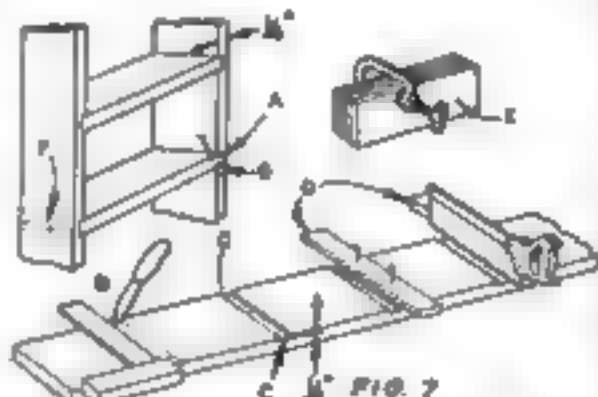

FIG. 7
1. Cut the shelves and the ends to shape, making an allowance of $\frac{1}{4}$ in. on each end of each shelf as at A, Fig. 7. Mark the exact thickness of each shelf on the end pieces as at B with a sharp pointed knife, making a deep cut. With a scratch gage, make a line on each edge $\frac{1}{4}$ in. from the inside face to indicate the depth of the groove. Tack a straight strip of wood against the line on the outside of the groove as at D, and make a $\frac{1}{4}$ in. deep saw cut to the gage line C. Then change the guide to the other side of the groove and repeat the process. With a narrow chisel cut the wood between the saw cuts away to marks C.